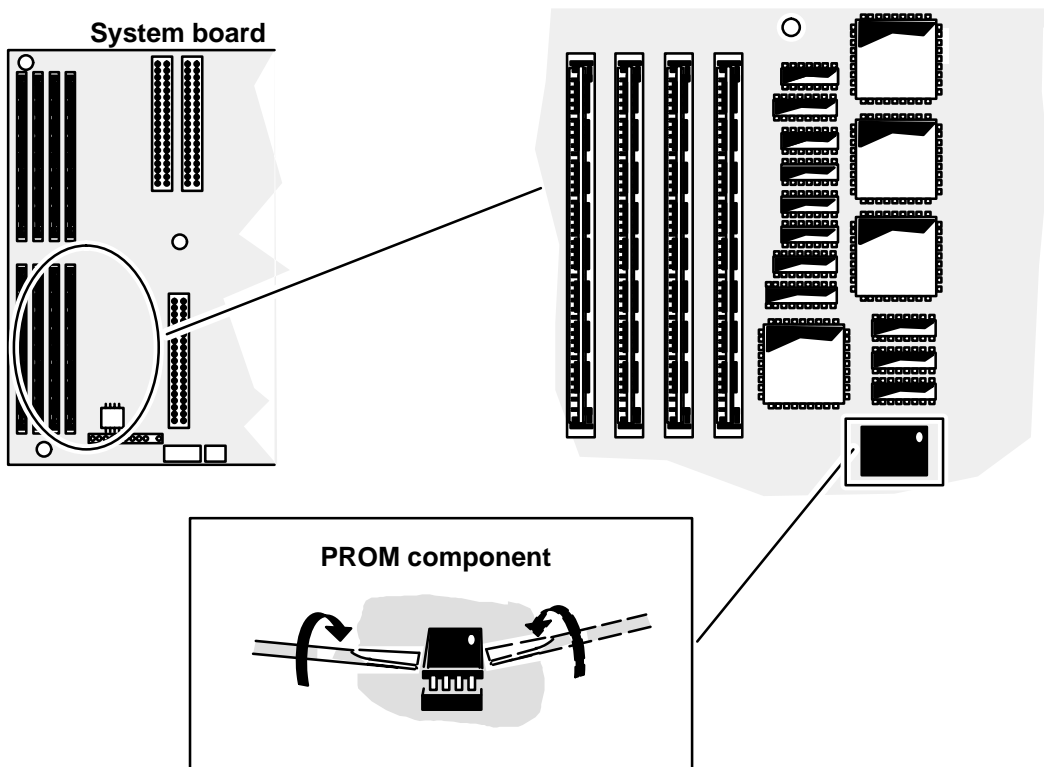

Figure 10-7 Removing the PROM Component
11. Using a flat-blade screwdriver, *gently* pry up one end and then the other end of the PROM component as shown in Figure 10-7 until it is loose enough to remove by hand.
**NOTE:** If the *replacement* system board has a PROM installed as shown in Figure 10-7, you need to remove the PROM component from the replacement system board following Steps 11 and 12 in the previous section “Removing the System Board.”